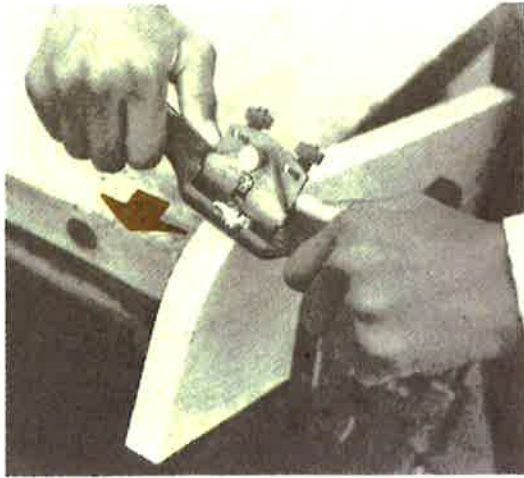
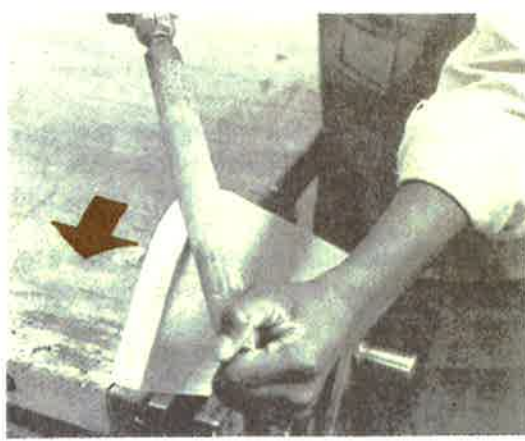
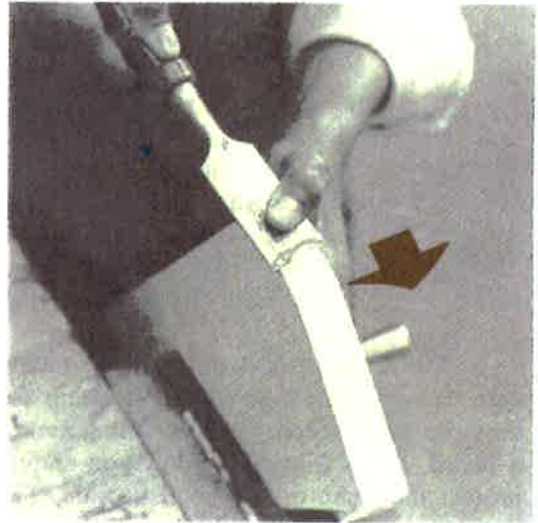

Fig. 14-14. Pushing the spokeshave to smooth a convex edge.
Fig. 14-16. Filing a convex curve.
Fig. 15-9. Trimming a convex curve with a chisel. Use a series of short strokes.
6. Continue cutting until the waste stock has been almost entirely removed. It may then be shaped further with a spokeshave (Fig. 14-14), a file (Fig. 14-16), or a chisel (Fig. 15-9).
3. Smooth the curved edge with the spokeshave to the exact pattern line (Figs. 14-14 and 14-15). This tool is used effectively by either pushing or pulling.
3. Push the file or forming tool across the edge of the wood with a forward and side motion (Figs. 14-16 through 14-19).
2. When you cut a round corner, push the chisel in a shearing motion. Use a series of short strokes (Fig. 15-9). Be sure that the bevel edge of the chisel is turned *up*.